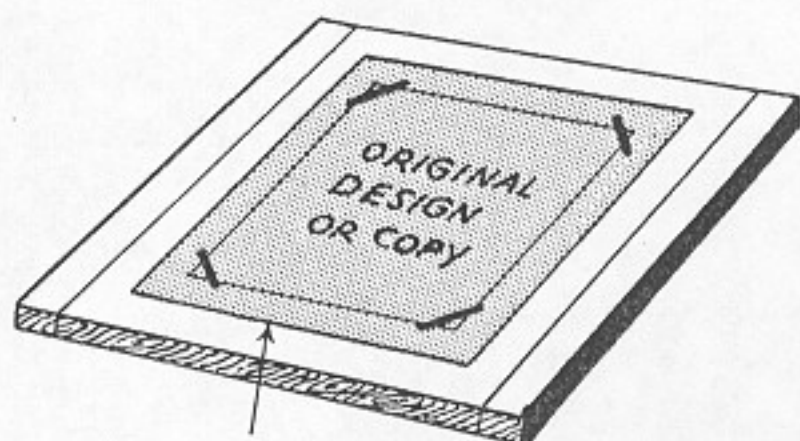
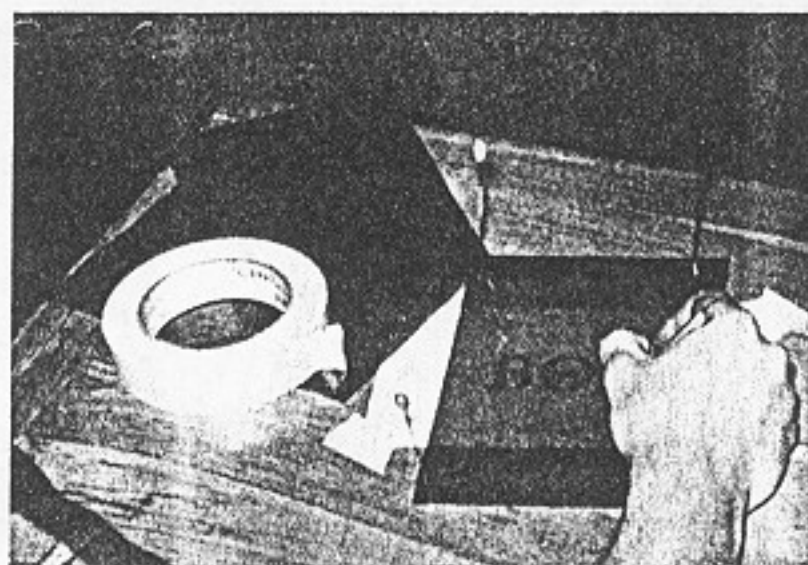

Fig. 114. Film in Position Over Original
Fig. 125. Simple Device for Register Cutting
Drawing board. It is easier to cut a stencil when the copy is attached to a drawing board since it can be moved to get the best possible light and most comfortable position, Fig. 114.
1. Fasten the original copy to a drawing board or to the work table with thumb tacks or tape, Fig. 114.
A very simple but accurate register-cutting device is shown in Fig. 125. A piece of film is cut out for each color. All pieces of film are cut to the same size. The original design or copy is fastened to a drawing board as shown in Fig. 114. The entire set of cut pieces of film is then placed over the design. Three long "bank pins" or corsage pins are then driven vertically through all pieces of the film and into the drawing board. The corner pin (in the upper left-hand corner of the illustration) serves as a pivot pin.